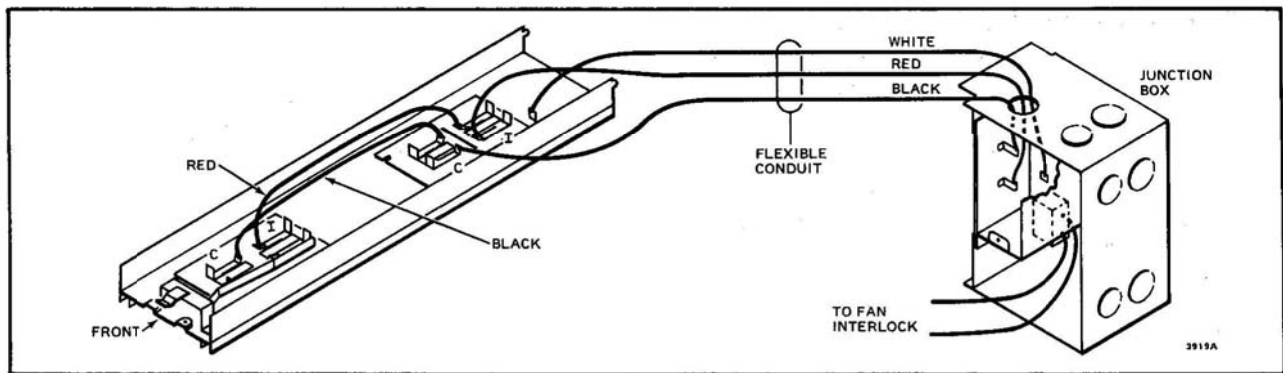

FIG. 27—CONNECTIONS FOR 2-CELL F50B REMOTE POWER SUPPLY. CONNECTIONS TO REMOTE MOUNT 1-CELL MODEL ARE THE SAME.
6. Use the quick-connects on the new wires to make the electrical connections according to Fig. 27.